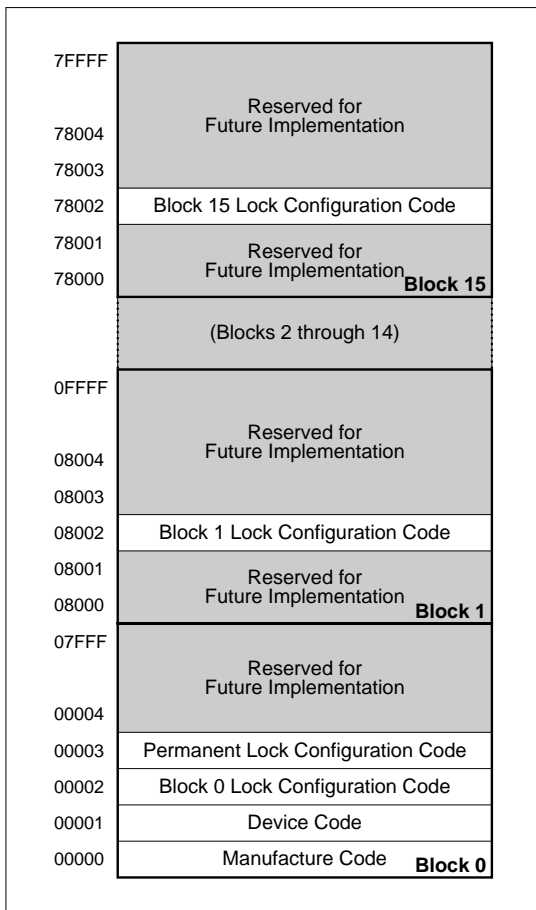

Fig. 2 Device Identifier Code Memory Map
The read identifier codes operation outputs the manufacture code, device code, block lock configuration codes for each block, and the permanent lock configuration code (see **Fig. 2**). Using the manufacture and device codes, the system CPU can automatically match the device with its proper algorithms. The block lock and permanent lock configuration codes identify locked and unlocked blocks and permanent lock-bit setting.
IA = Identifier code address : see **Fig. 2**.
The identifier code operation is initiated by writing the Read Identifier Codes command. Following the command write, read cycles from addresses shown in **Fig. 2** retrieve the manufacture, device, block lock configuration and permanent lock configuration codes (see **Table 4** for identifier code values). To terminate the operation, write another valid command. Like the Read Array command, the Read Identifier Codes command functions independently of the VPP voltage and RP# can be VIH or VHH. Following the Read Identifier Codes command, the following information can be read :
1. X selects the specific block lock configuration code to be read. See **Fig. 2** for the device identifier code memory map.